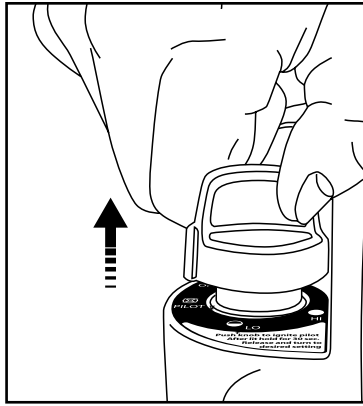

Figure 4: Release knob.
- After pilot lights, hold down for 30 -60 seconds and then release knob. Knob should return to fully extended position; see Figure 4. To operate heater slightly depress knob and gently turn to lock in the "HI" position to light
- After pilot lights, hold down for 30 -60 seconds and then release knob. Knob should return to fully extended position; see Figure 4. To operate heater slightly depress knob and gently turn to lock in the "HI" position to light burner tile. Leave on "HI" position until burner tile turns bright orange.